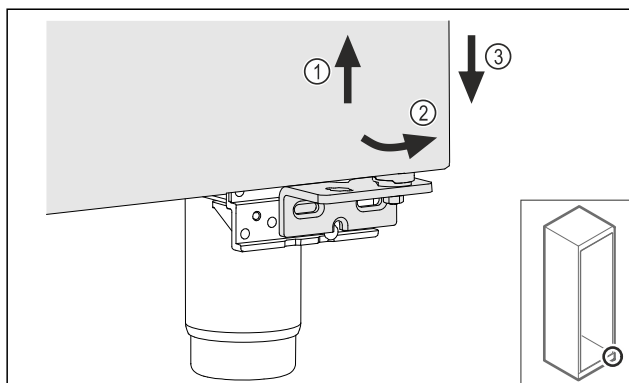

Fig. 20
- ▶ Lift the door slightly Fig. 20 (1), tip it forward Fig. 20 (2) and lower it Fig. 20 (3).